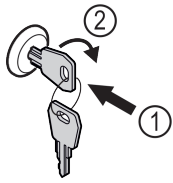

Fig. 68 Example illustration
- Insert key Fig. 68 (1).
- Turn key clockwise by 90° Fig. 68 (2).